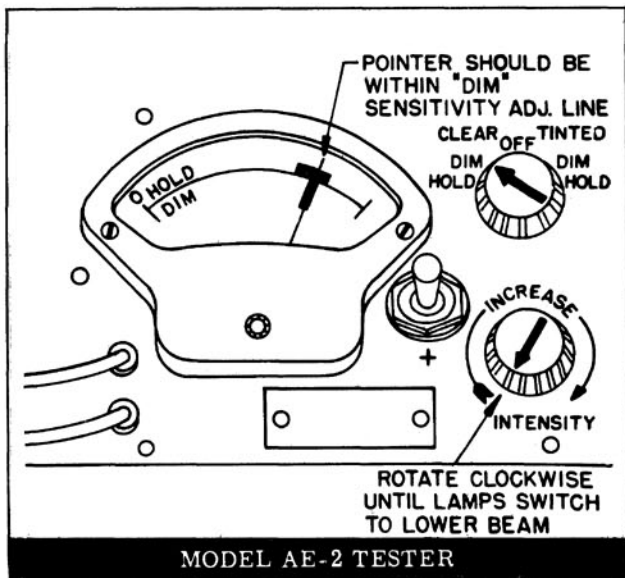

Fig. 12-59 Dim Sensitivity Test
1. Rotate tester Intensity Rheostat completely counterclockwise. (Fig. 12-59)